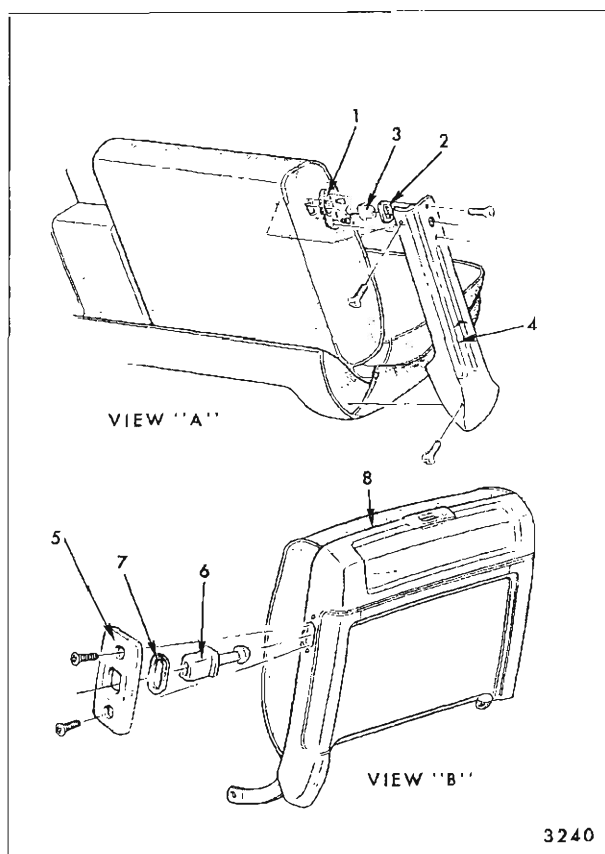

Fig. 15-31—Seat Back Lock Push Button - "C & E"
- On styles with full seat back panel, remove seat back lock push button escutcheon and remove lock push button and ferrule; then, remove seat back panel (See View "B", in Fig. 15-31). On styles with seat side panel, remove seat side panel; then, remove lock push button and ferrule (See View "A", in Fig. 15-31).